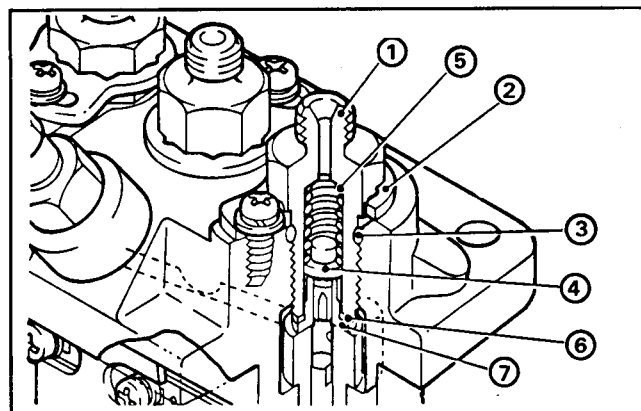

Figure 20
A. Remove the delivery valve holder (Fig. 20). Remove the delivery valve and spring. The valve seat must remain in place.